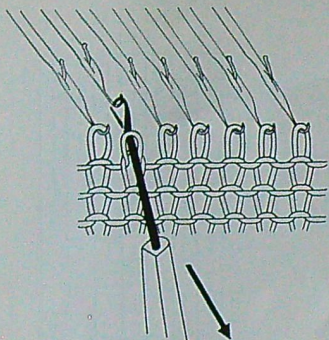

Fig. 37
- (2) Knit one ladder and make one stitch and transfer it on the empty needle. See Fig. 37.